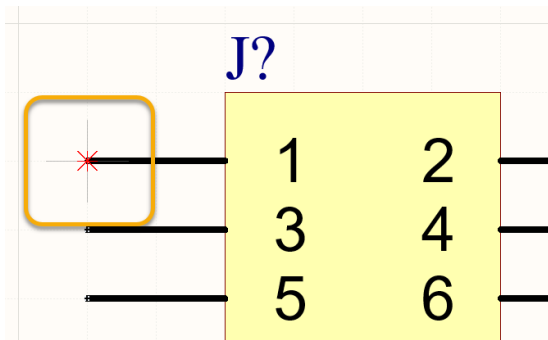

Figure 10. Electrical Hotspot of a pin for schematic connections
- b) Move the cursor to the tip of Pin 1 of component J4. You will see a cross appear, indicating you are on the pin's electrical hotspot as seen in Figure 10.